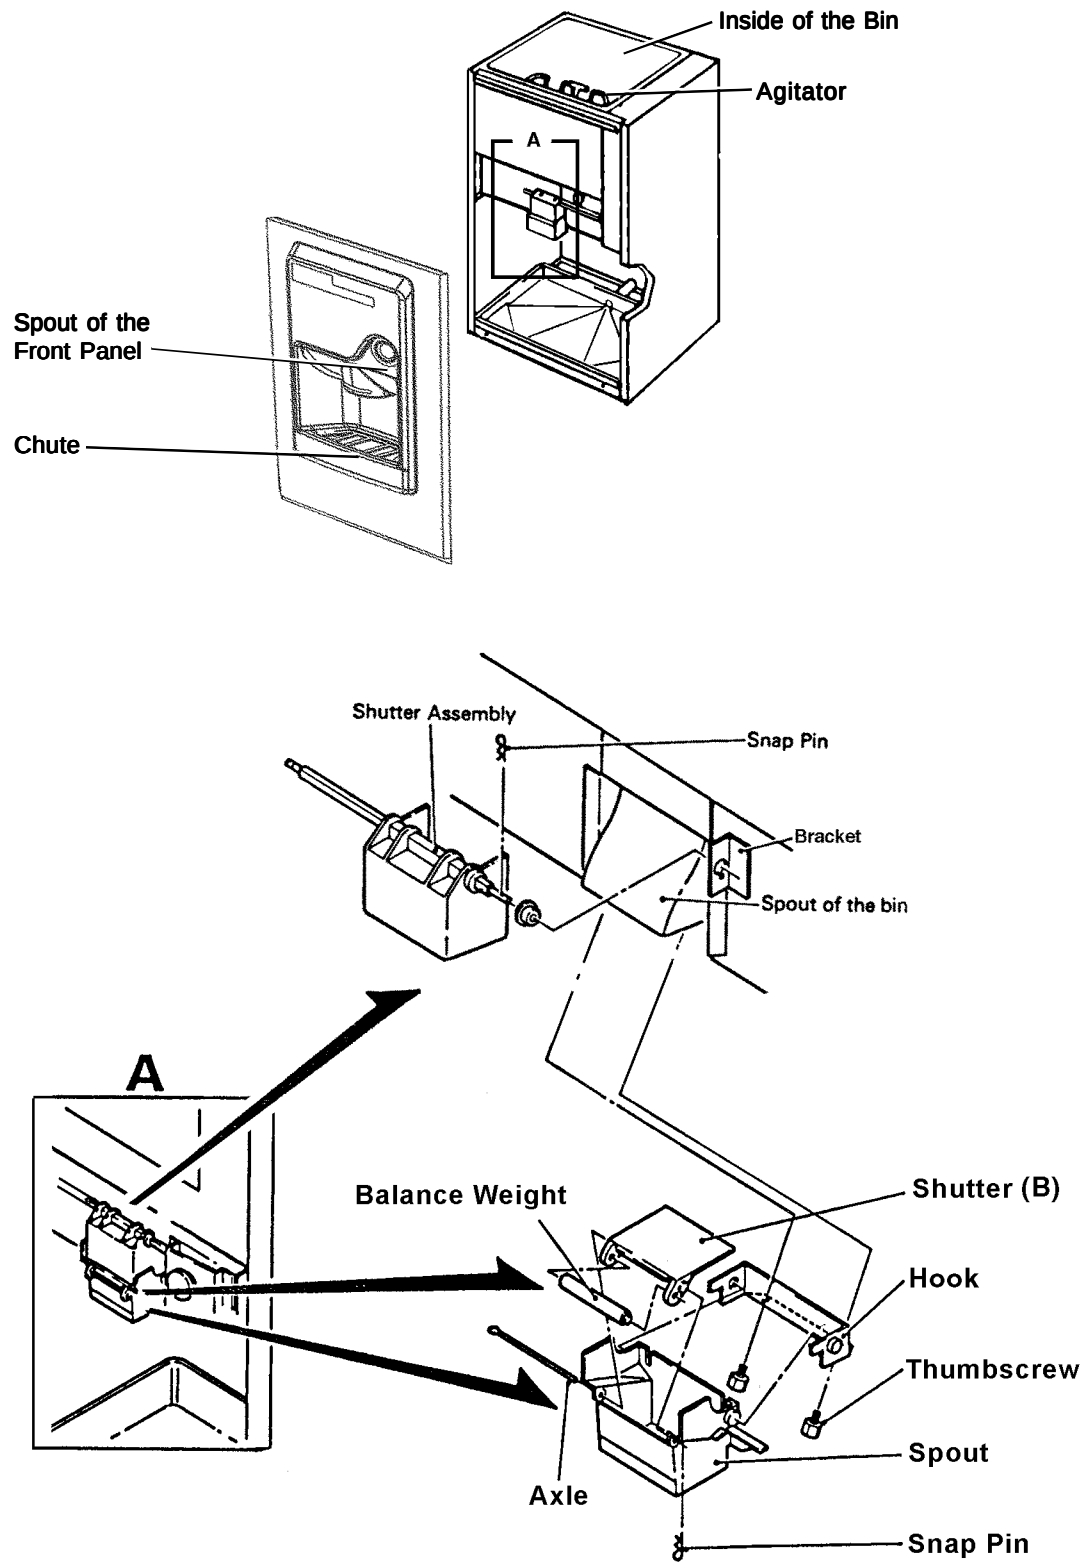

Fig. 5
7) Remove the Shutter Assembly and Spout and scrub them using the cleaning solution made in step 6. See Fig. 5.
- c) Remove the Thumbscrews holding the Hook and take it off the Spout. Take off the Snap Pin and the Axle from the Shutter (B). Open out the Shutter (B) and remove the Balance Weight.